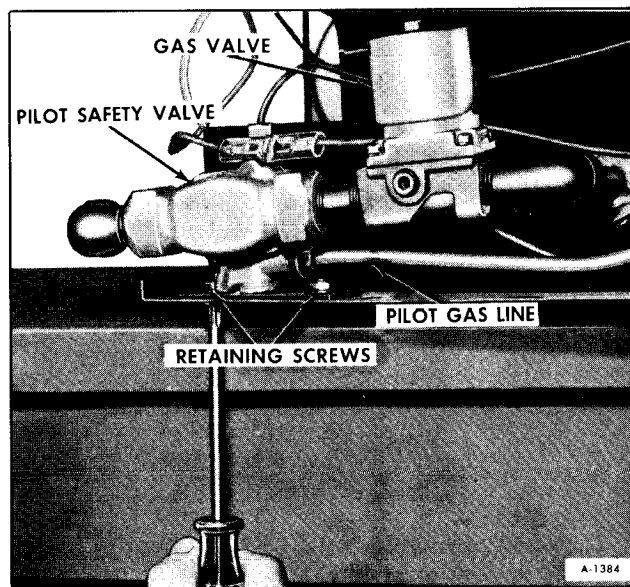

Figure 16-(NT-22G) Removing Pilot Safety Valve Retaining Screws
4. Remove screws and nuts holding valve to chamber (See figures 16 and 17).
4. Install screws and nuts holding valve to chamber (figures 16 and 17). Be sure pilot reset rod and bracket are properly aligned.